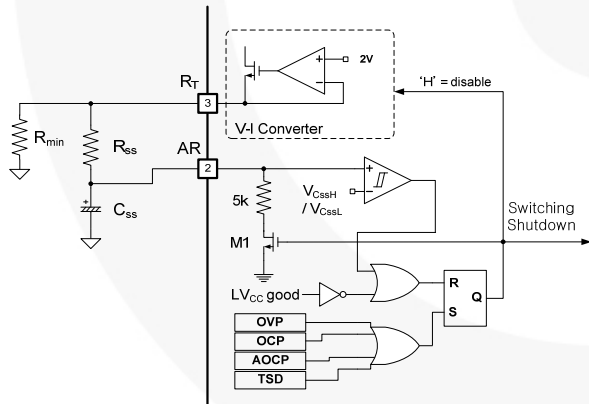
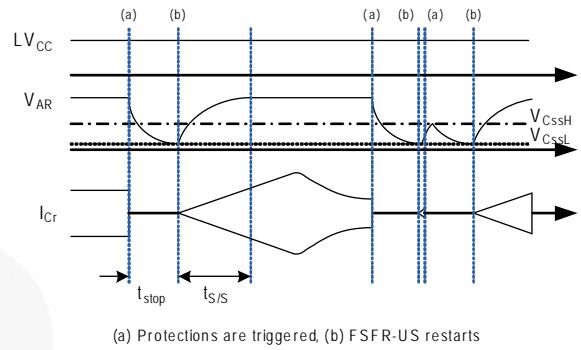

Figure 20. Internal Block of AR Pin
Figure 21. Self Auto-Restart Operation
**4. Self Auto-Restart:** The FSFR-XS series can restart automatically even though any built-in protections are triggered with external supply voltage. As can be seen in Figure 20 and Figure 21, once any protections are triggered, the M1 switch turns on and the V-I converter is disabled.  $C_{SS}$  starts to discharge until  $V_{CSS}$  across  $C_{SS}$  drops to  $V_{CSSL}$ . Then, all protections are reset, M1 turns off, and the V-I converter resumes at the same time. The FSFR-XS starts switching again with soft-start. If the protections occur while  $V_{CSS}$  is under  $V_{CSSL}$  and  $V_{CSSH}$  level, the switching is terminated immediately,  $V_{CSS}$  continues to increase until reaching  $V_{CSSH}$ , then  $C_{SS}$  is discharged by M1.